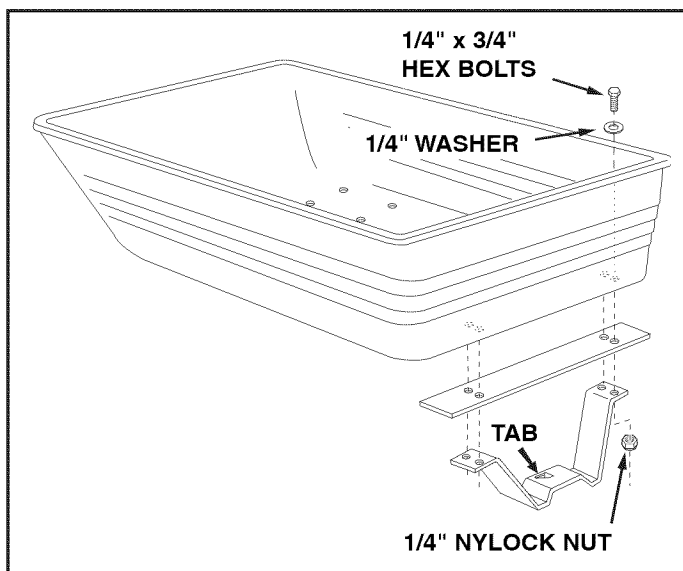

FIGURE 5
- Assemble the latch stand plate and latch stand bracket (with alignment tab toward rear of cart) to the cart tray using four 1/4" x 3/4" hex bolts, 1/4" washers and 1/4" nylock nuts. Tighten nuts after all bolts are in place. See figure 5.